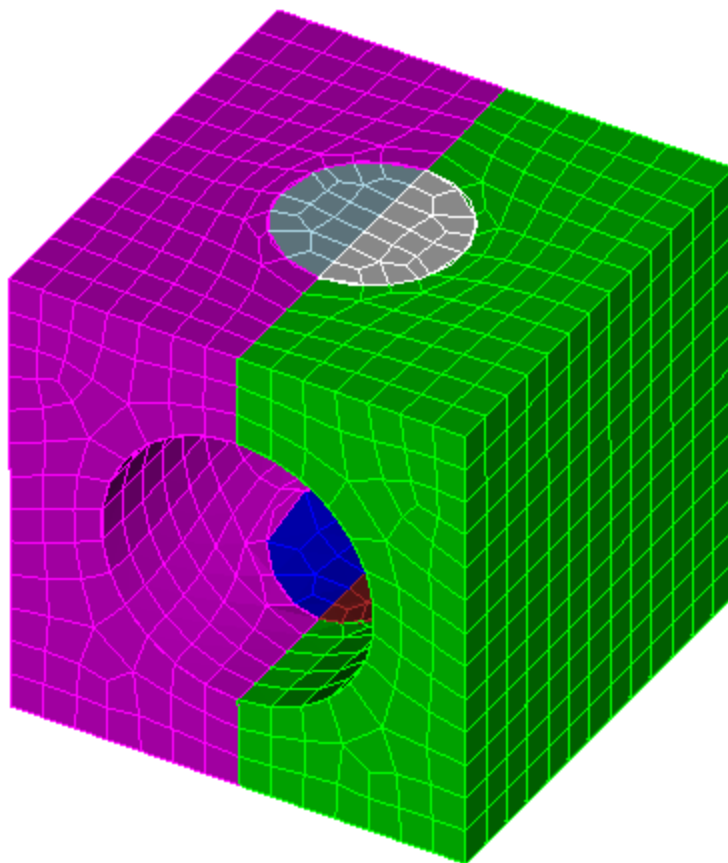

Figure 4: The mesh after meshcutting
Step 3: Cut the mesh. Figure 4 shows the new mesh after the original mesh has been cut. Also recommend smoothing the mesh: